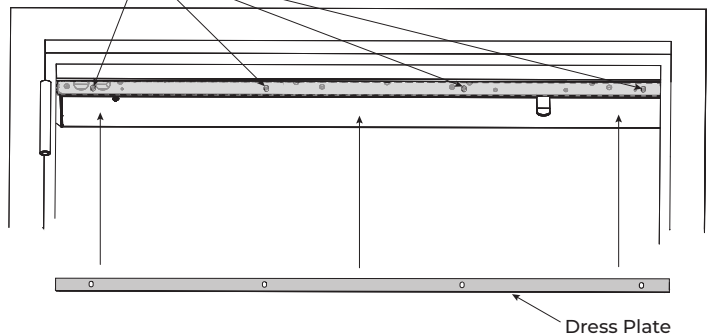

Fig. 21
2. Use four (4) 8-32 X 5/16" machine screws to secure the dress plate to the backplate where indicated. (Fig. 21)